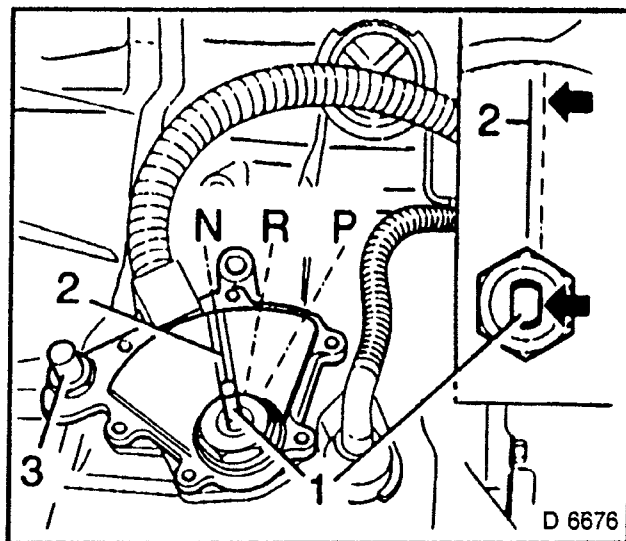
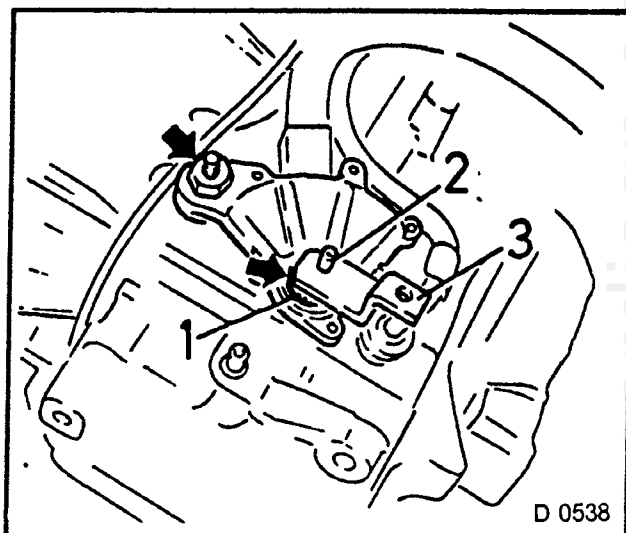

Fig. 538
Fig 539
2. Place switch from above on selector lever shaft (1).
3. Selector lever shaft or actuation lever Fig. 539 Item 3 in neutral position — up to stop to the right, then turn back two notches (P, R, N — see Fig. 538).
4. Turn selector lever position switch so that the flattened surface of the selector lever shaft (arrows) runs parallel to the split (2) on the housing of the switch.
5. In this position, tighten the selector lever position switch to the transmission (3).